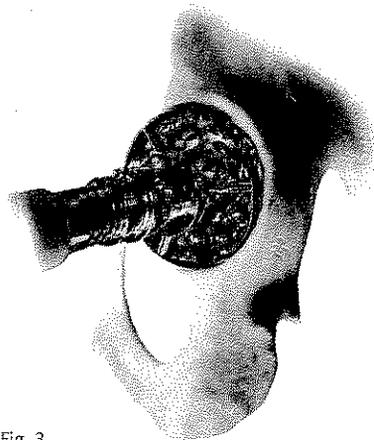

Fig. 3
**Note:** During the acetabular preparation, one must be particularly careful in order to prevent excessive reaming of the bone and to maintain a hemispherical cavity (Fig. 3).